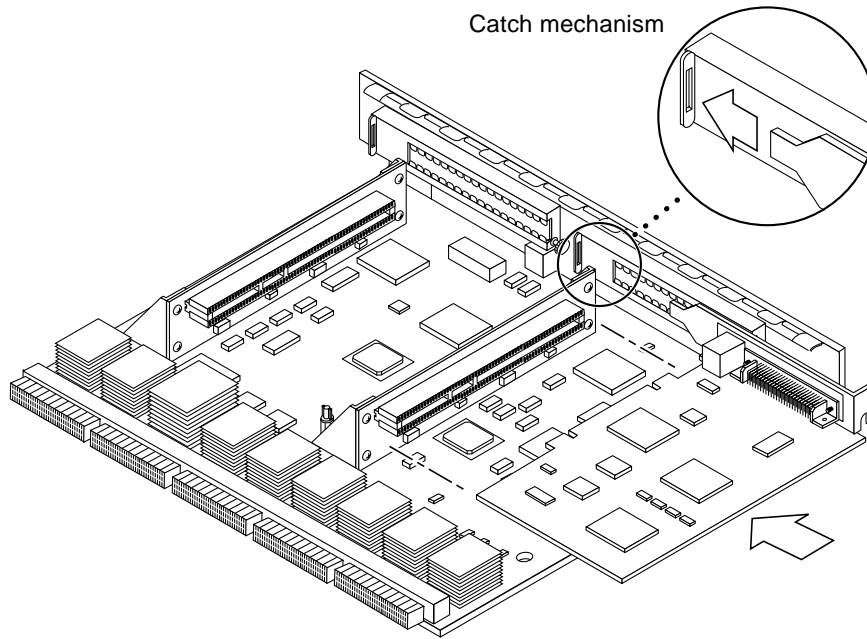

FIGURE 4-23 PCI Card Installation/Replacement
- 3. Align the PCI card so that the PCI bus connector mates with the PCI+ I/O board PCI bus connector, making sure that the external connector end of the card is retained on one side by the opening in the metal catch mechanism and the opposite end is properly aligned to accept the locking thumbscrew (FIGURE 4-23).**